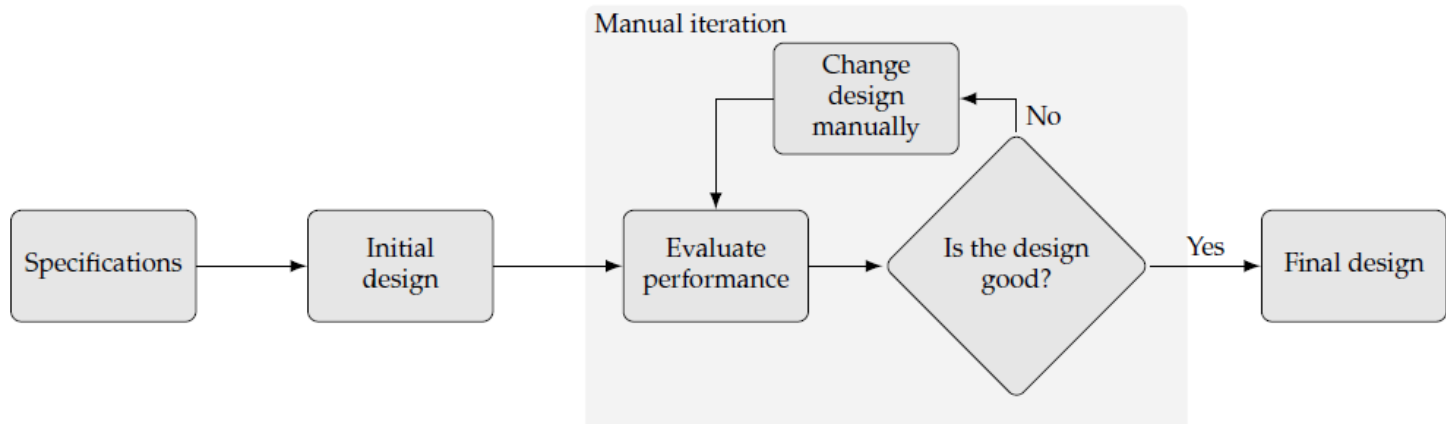

Figure 1.02 Classical engineering design process.
- Fig. 1.02 shows a classical simplified single iterative loop design process. In this process, engineers make decisions at every stage based on intuition and background knowledge.
- The design optimization process can be represented using a flow diagram as shown in Fig. 1.02.